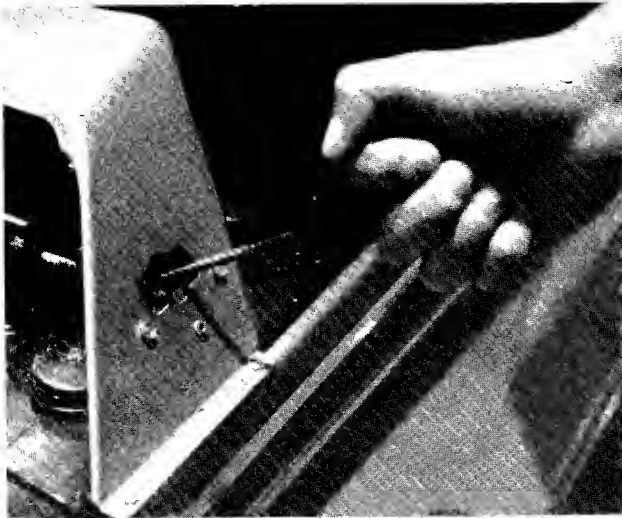

FIGURE 7. RECOIL STARTER
7. **Recoil Model.** Turn the ignition key to the ON position. Twist the recoil starter handle until it is free and pull it with a quick steady motion. After the engine starts, return the recoil starter handle. Twist it until it locks. See figure 7.